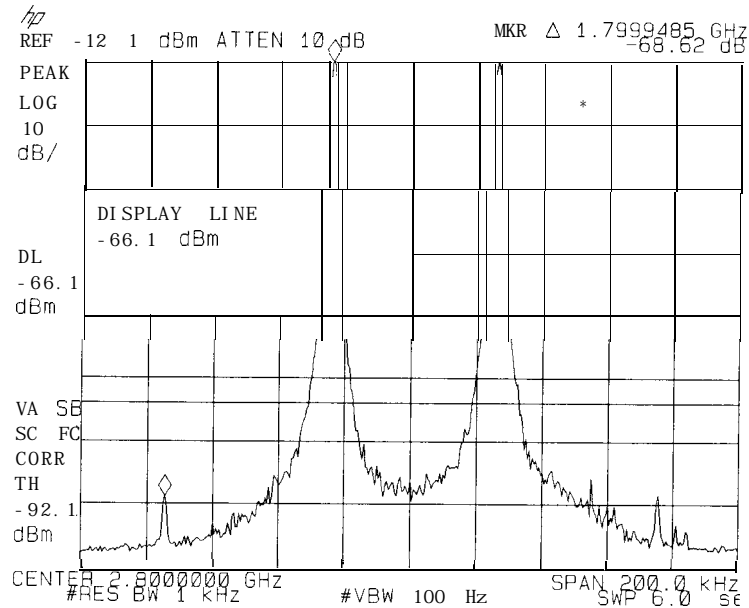

Figure 2-48. Third Order Intermodulation Distortion
44. The third-order intermodulation distortion products should appear 50 kHz below the lower frequency signal and 50 kHz above the higher frequency signal. Their amplitude should be less than the display line. See Figure 2-48.
- The third-order intermodulation distortion products should appear 50 kHz below the lower frequency signal and 50 kHz above the higher frequency signal. Their amplitude should be less than the display line. See Figure 2-48.